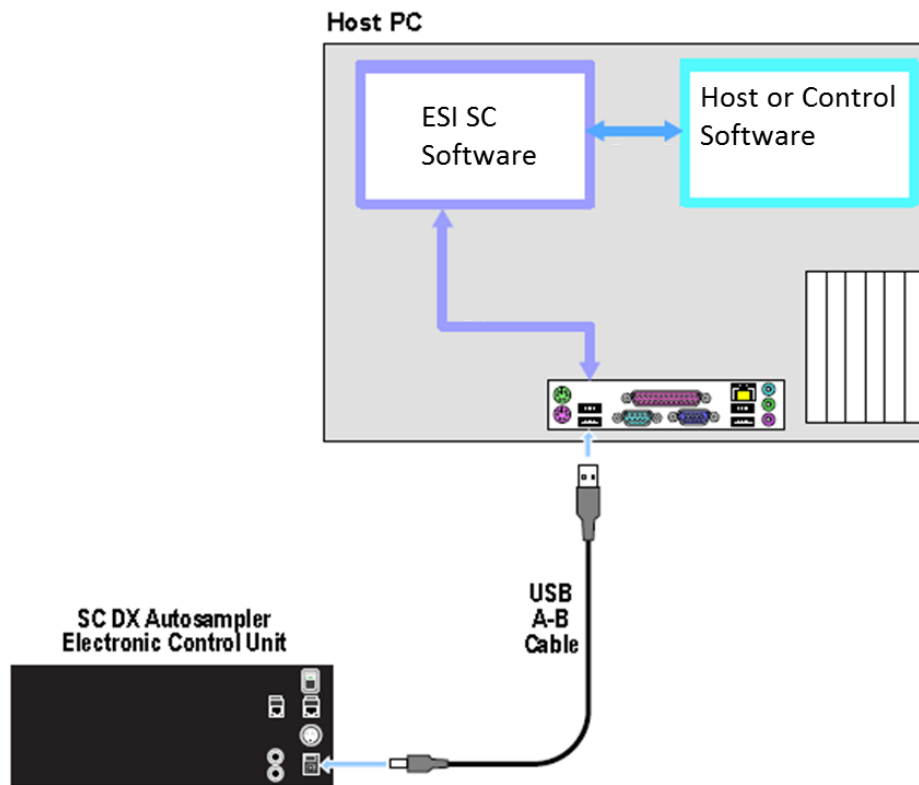

Figure 30: Communication Control Diagram
- 2) Connect the USB cable from the computer to the SC Autosampler control unit. See Figure 30. Connect 24 V DC power to the SC Autosampler.